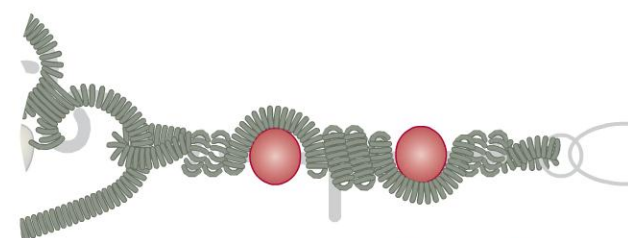

figure 8
- 1 9** If necessary for length, coil more of the 26-gauge wire tail around the uncoiled section of the 20-gauge wire. Pull the coiled 20-gauge wire down the side of the closest garnet and wrap it three times around the previously wrapped/coiled segment made in Step 16 (Figure 8).